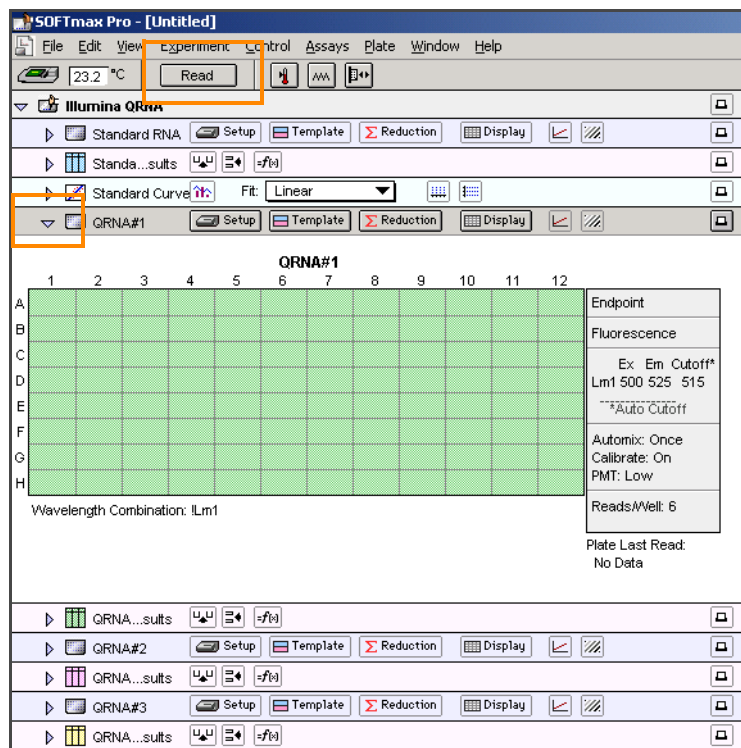

Figure 18 Read the Sample QRNA Plate
11. Click the blue arrow next to **QRNA#1** and click **Read** (Figure 18).